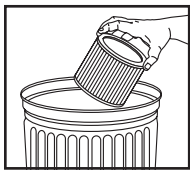

FIGURE 10
16. To clean cartridge filter shake or brush off excess dirt. **FIGURE 10.**